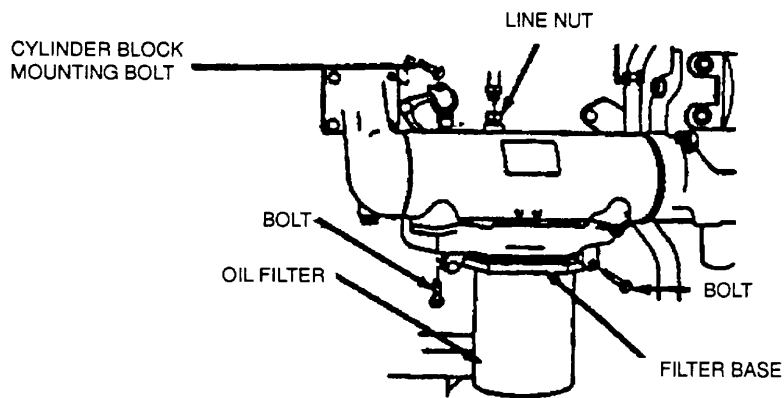

Figure 4-4. HP Pump Diesel Engine Oil Filter.
- (1) Wipe dirt from oil filter (Figure 4-4).
- (2) Remove and discard filter.
- (3) Clean the filter base and remove all old gasket material.
- (4) Lightly coat filter gasket with engine oil.
- (5) Install new filter Hand tighten an additional 3/4 turn after gasket contacts the base.